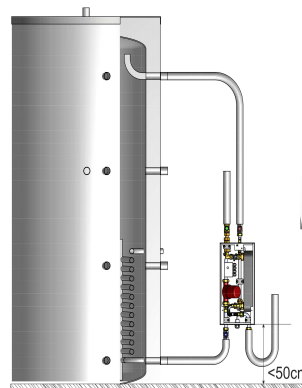

Fig. 3
The fresh water station has to be installed as far as possible on the bottom height of the buffer tank to avoid passive circulation, tank heating losses and temperature peaks. (Fig.3)
2. Next the primary circle has to be filled and vented. Therefore open the ball valves on the primary side (connection III, blue and IV, red). Then open the air vent of the fresh water station unit, until all air has disappeared, then preliminary close the air vent (Fig.3). Until this point neither the fresh water and the instantaneous hot water unit is connected on electricity line.